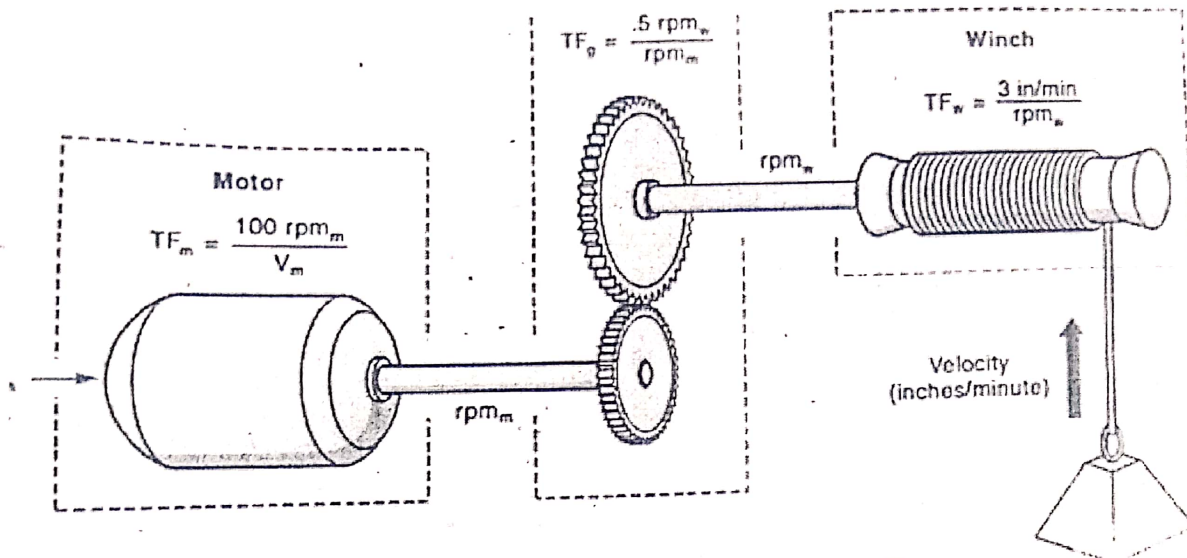

Figure 3: System with three transfer function
- d.) Consider the system given in Figure 3 where an electric motor is driving a gear train which is driving a winch. The motor (under these conditions) turns at 100 rpm for each Volt (V) supplied; the output shaft of the gear train rotates at one-half of the motor speed; the winch (with a 3-inch shaft circumference) converts the rotary motion (rpm) to linear speed.